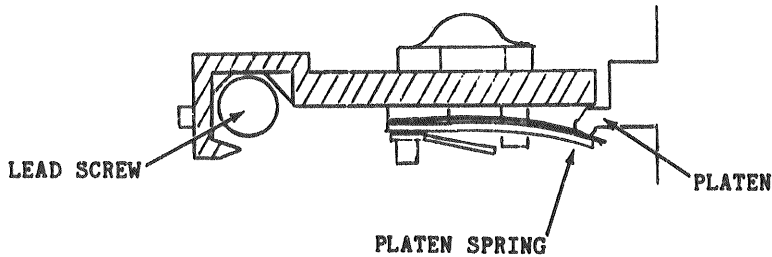

Figure 6-7. Properly Seated Carriage
- e. Set the replacement head carriage on the lead screw (towards the front), sliding the platen spring of the carriage under the platen on the sub-chassis. Ensure that the lead screw channel on the carriage is seated on the lead screw (see Figure 6-7).